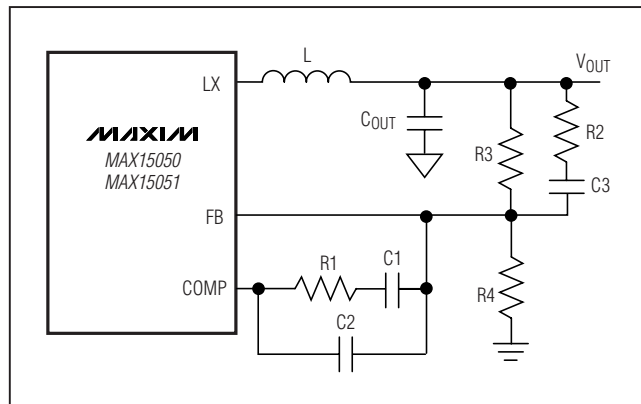
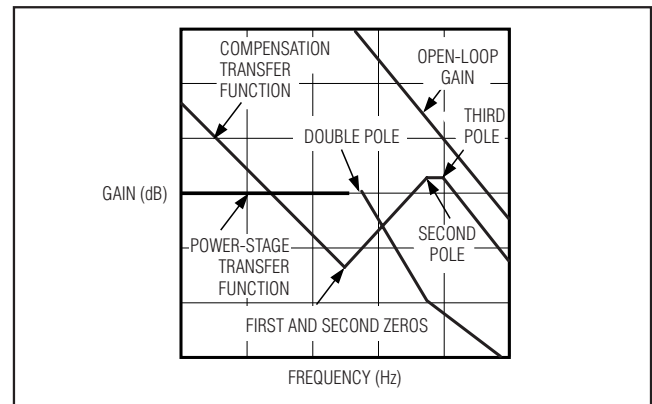

Figure 4. Type III Compensation Network
Figure 5. Type III Compensation Illustration
The MAX15050/MAX15051 high switching frequency allows the use of ceramic output capacitors. Since the ESR of ceramic capacitors is typically very low, the frequency of the associated transfer function zero is higher than the unity-gain crossover frequency, f_C , and the zero cannot be used to compensate for the double pole created by the output inductor and capacitor. The double pole produces a gain drop of 40dB/decade and a phase shift of 180°. The compensation network must compensate for this gain drop and phase shift to achieve a stable high-bandwidth closed-loop system. Therefore, use type III compensation as shown in Figure 4 and Figure 5. Type III compensation possesses three poles and two zeros with the first pole, f_{P1_EA} , located at zero frequency (DC). Locations of other poles and zeros of the type III compensation are given by: